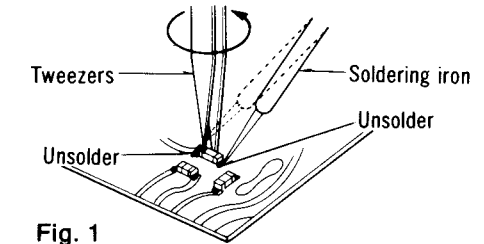

Fig. 1
2. While the chip is hot remove it by turning with tweezers, as shown in fig. 1.